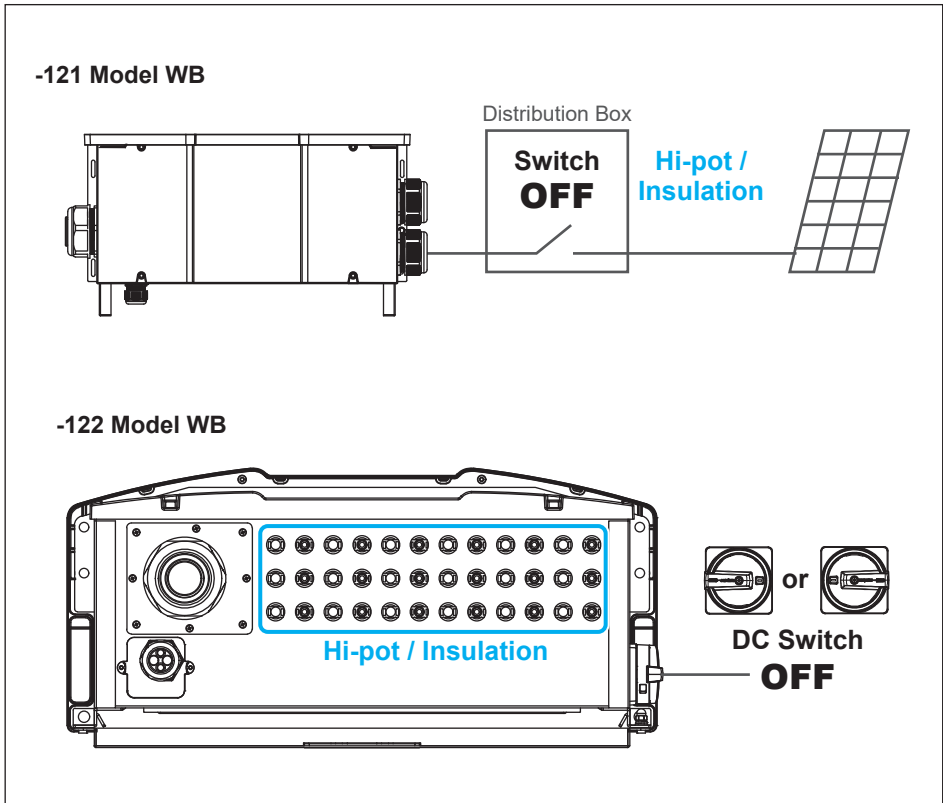

Figure 3-31 : Precautions for on-site insulation test
2. Apply one probe to the positions shown in **Figure 3-31**, the other to the ground. It might cause damages to the inverter if probes are applied to inappropriate positions.